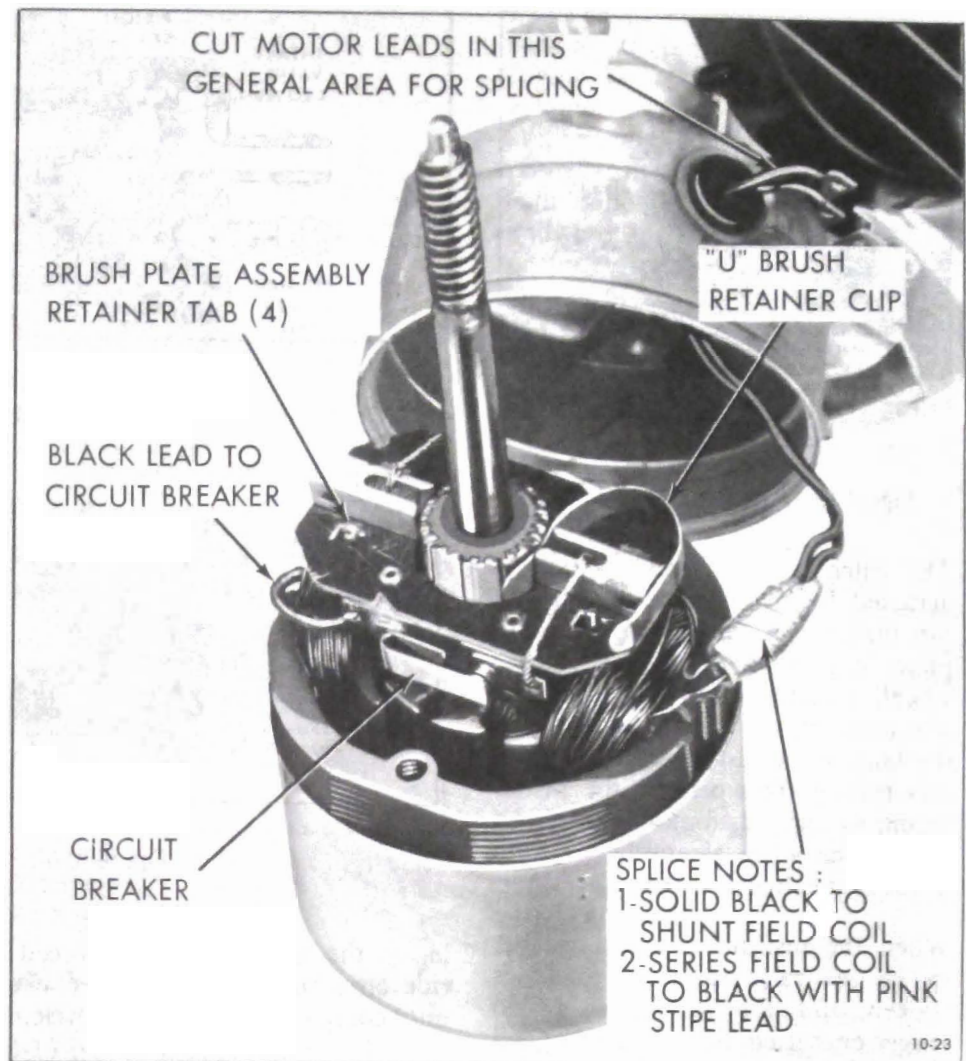

Figure 10-42 Motor Disassembly
4. Unsolder the black lead from circuit breaker. See Figure 10-42.
6. Install "U" shaped brush retainer clip over brush holder that has brush lead attached to circuit breaker. See Figure 10-42
2. The end case and field assembly is serviced as a unit. To free the field and case assembly, cut the solid black and black with pink stripe leads in a location convenient for splicing - preferably near the wiper terminal board. Refer to Figure 10-42.
ing tabs in the position shown in Figure 10-42.
7. Remove brush retainer clips and resolder circuit breaker ground lead to circuit breaker. Refer to Figure 10-42.